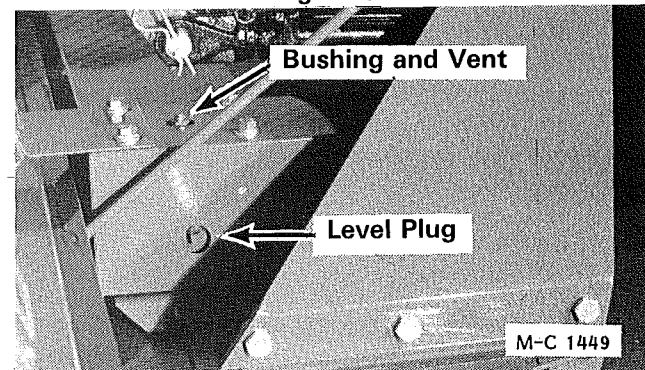

Figure 9
1. Remove the oil level plug on the right side of the gearbox and check the oil level, see Figure 9. The oil should be up to the bottom of the level plug hole.